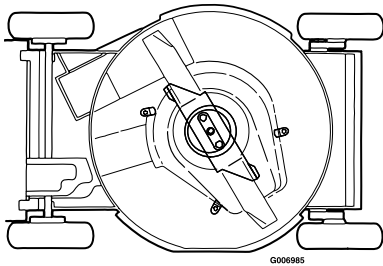

Figure 32
2. To ensure the best performance, keep the underside of the lawn mower housing clean (Figure 32).